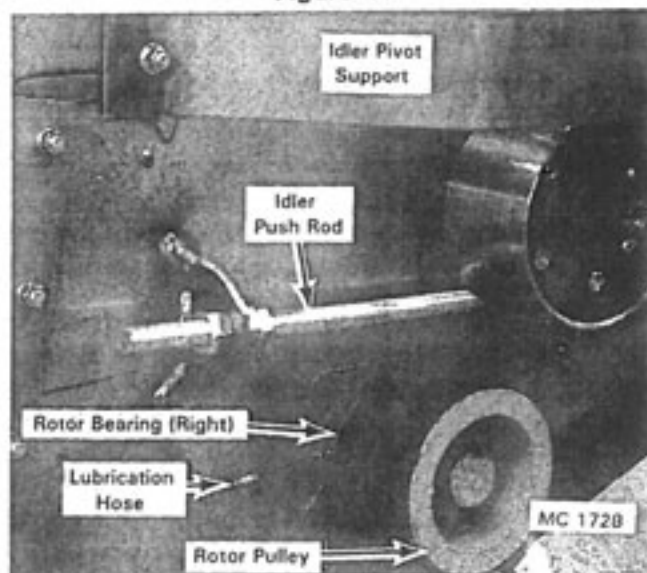

Figure 42 - Idler Push Rod Ass'y.
2. Remove the belt guard cover, lubrication hose and back belt guard, see Figure 42. Remove the drive belts. Refer to "Drive Belt Replacement" page 18 for procedure.